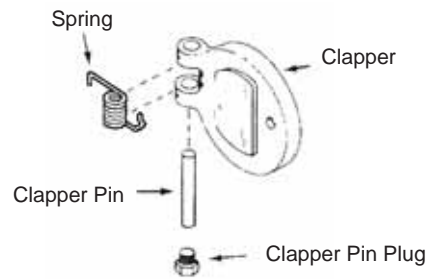

Figure 4b
3. Take the clapper pin with the extension screw and insert the pin into the spring and support hangers (see Figure 4b)